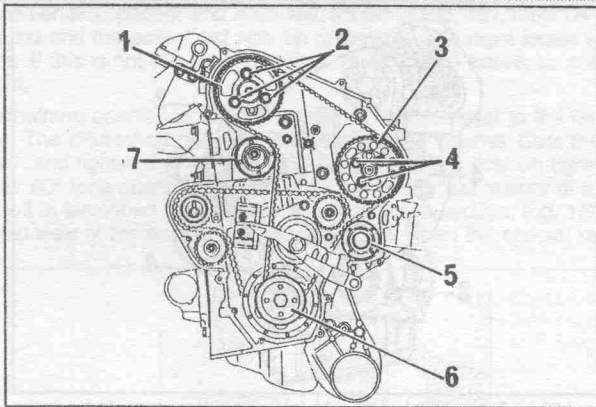
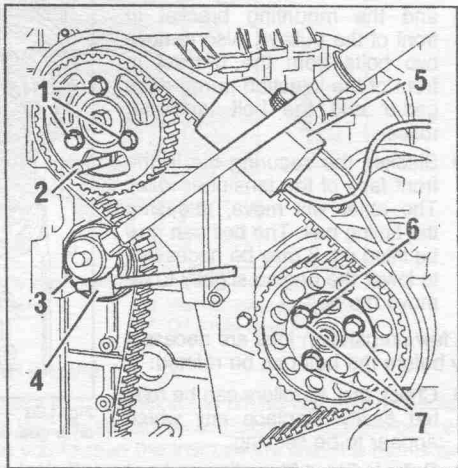

Fig. 1.61. — Fitting the timing belt. The numbers are referred to in the text.
Fig. 1.62. Details for the tensioning of the timing belt.
- Refer to Fig. 1.61 on the next page and slacken the bolts securing the camshaft sprocket and the injection pump sprocket (bolts 2 and 4). Hand-tighten the bolts again and then unscrew them by 1/6 of a turn.
- Turn the two sprockets (1) and (3) fully clockwise in their elongated holes.
- Place the timing belt over the individual elements in the following order. First place the belt over the crankshaft timing sprocket, hold it in position and then route it over the guide roller (5), the injection pump drive wheel (3), camshaft sprocket (1) and finally the tensioner roller (7). The gearwheels may have to be moved slightly to engage the teeth.
- The belt tension checking instrument shown in Fig. 1.62 must now be placed against the timing belt in the centre between the camshaft and injection pump sprockets. The tensioning roller has a square hole and a suitable square drive must be inserted (special lever 5711-T.E). Move the lever and with it the roller to tension the belt until the instrument shows 107 units (new belt) or 80 units (old
- Remove the instrument (5) in Fig. 1.62 and then tighten the screws (2) and (4) in Fig. 1.61. Both sets of screws are first tightened to 1.0 kgm (7.2 ft.lb.) and then to 2.5 kgm (18 ft.lb.).
- Slacken the bolts (2) and (4) in Fig. 1.61, hand-tighten them and then slacken them by 1/6 of a turn.
- Apply the tension checking device (5) in Fig. 1.62 in the position shown and adjust the belt tension by means of the lever or the square drive and torque wrench. This time the indications must be 58 units on the instrument (3.0 kgm on the torque wrench) in the case of a new belt or 51 units on the instrument or 2.5 kgm on the torque wrench in the case of a used belt. Correct as necessary.
- Remove the measuring instrument and tighten the screws (2) and (4) in Fig. 1.61, first to 1.0 kgm (7.2 ft.lb.) and then to 2.5 kgm (18 ft.lb.).